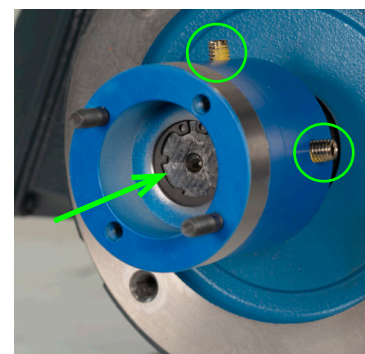

figure 1b
- B. Using a 3/16" bit and torque wrench, tighten both setscrews to 228 in-lbs (25.8 N-m). See figure 1b.